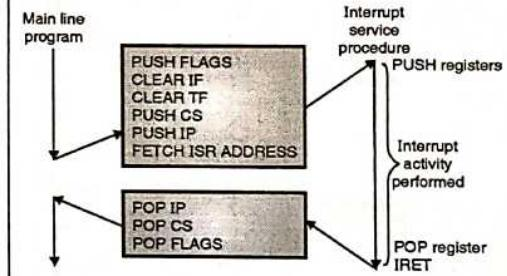

Fig. 7.3.2 : 8086 interrupt response
- To resume interrupted procedure microprocessor simply loads OLD CS and OLD IP value to CS register and IP register respectively. The full process is diagrammatically presented in Fig. 7.3.2.